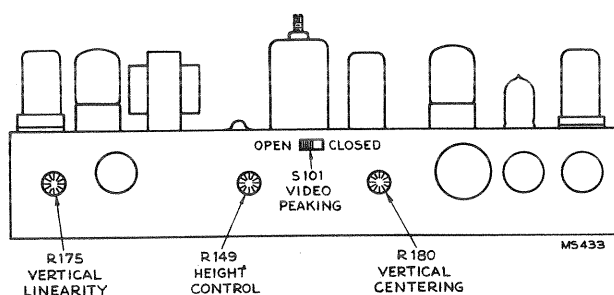

Figure 6—R-F, I-F Rear Chassis Adjustments
**VIDEO PEAKING SWITCH**—A video peaking switch is provided (see Figure 6) to permit changing the video response. Normally the switch should be left open. However, if the pictures from the majority of stations look better with the switch closed, then the switch should be placed in that position. However, if transients are produced on high contrast pictures then the switch should be left open.